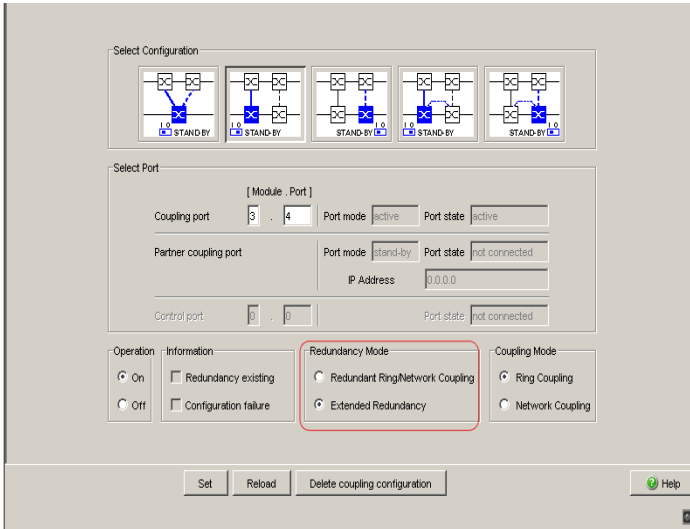

Figure 30: Selecting the redundancy mode
- In the “Redundancy Mode” frame, select (see figure 30)